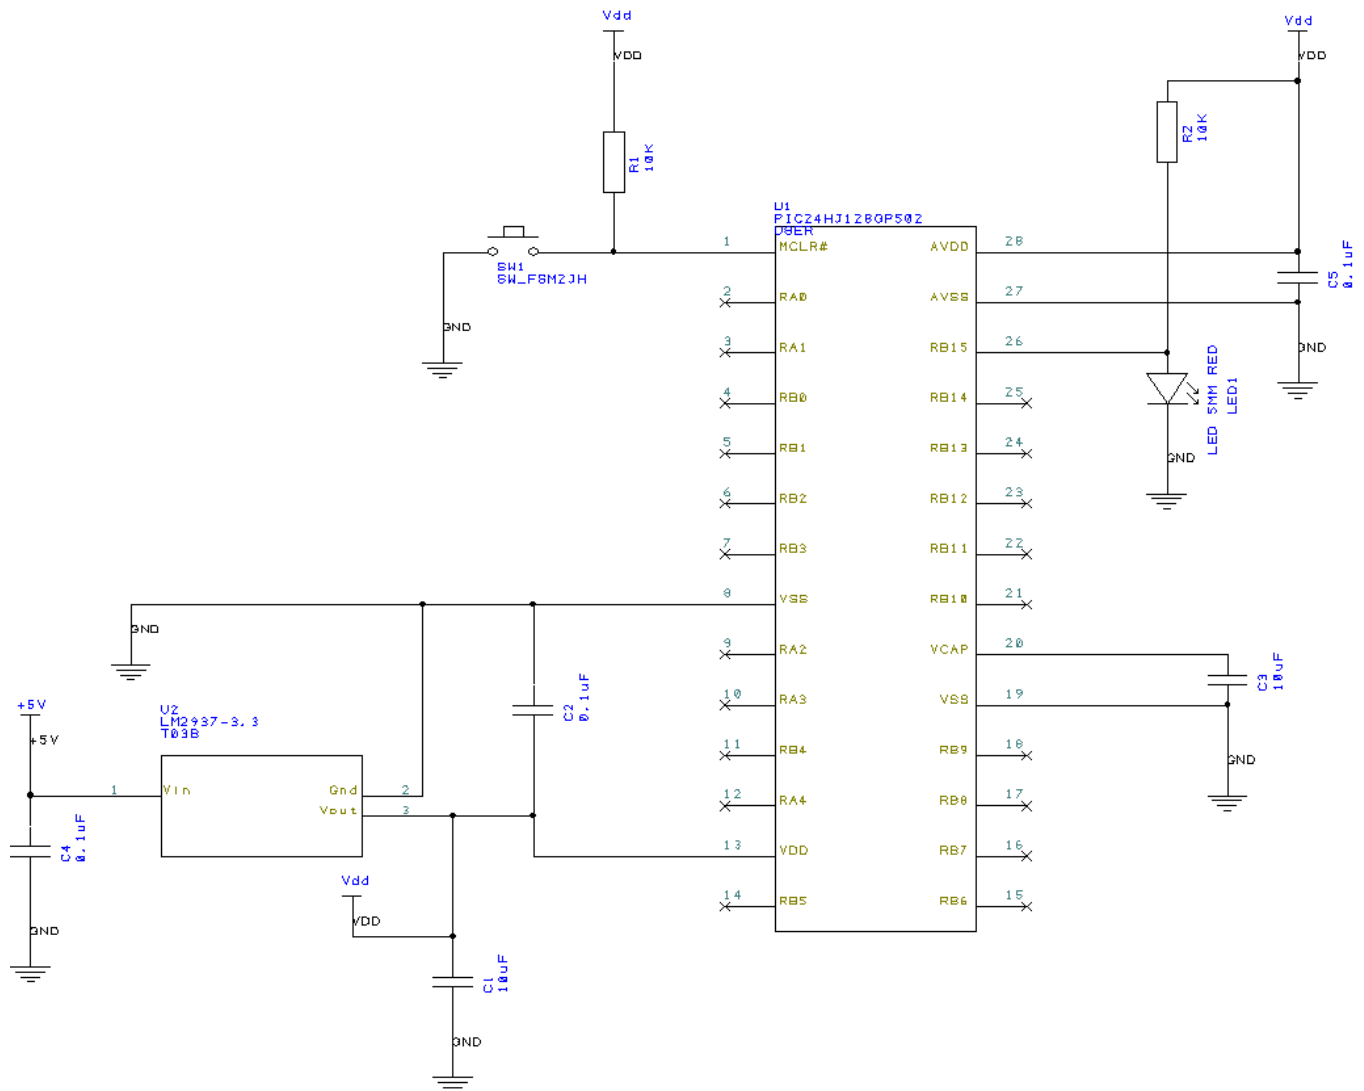

Figure 3. Basic PIC24 System Schematic
Using PCB Artist, create a basic PIC24 system as shown in Figure 3 below. You may use your schematic from the previous task as a starting point for this design. The resistor (RA) components, labeled R1-R2, are available in the *discrete* library. Use will also use the SW_FSM2JH component for the pushbutton and the LED component for the single LED in the system. These components are also available in the *discrete* library.